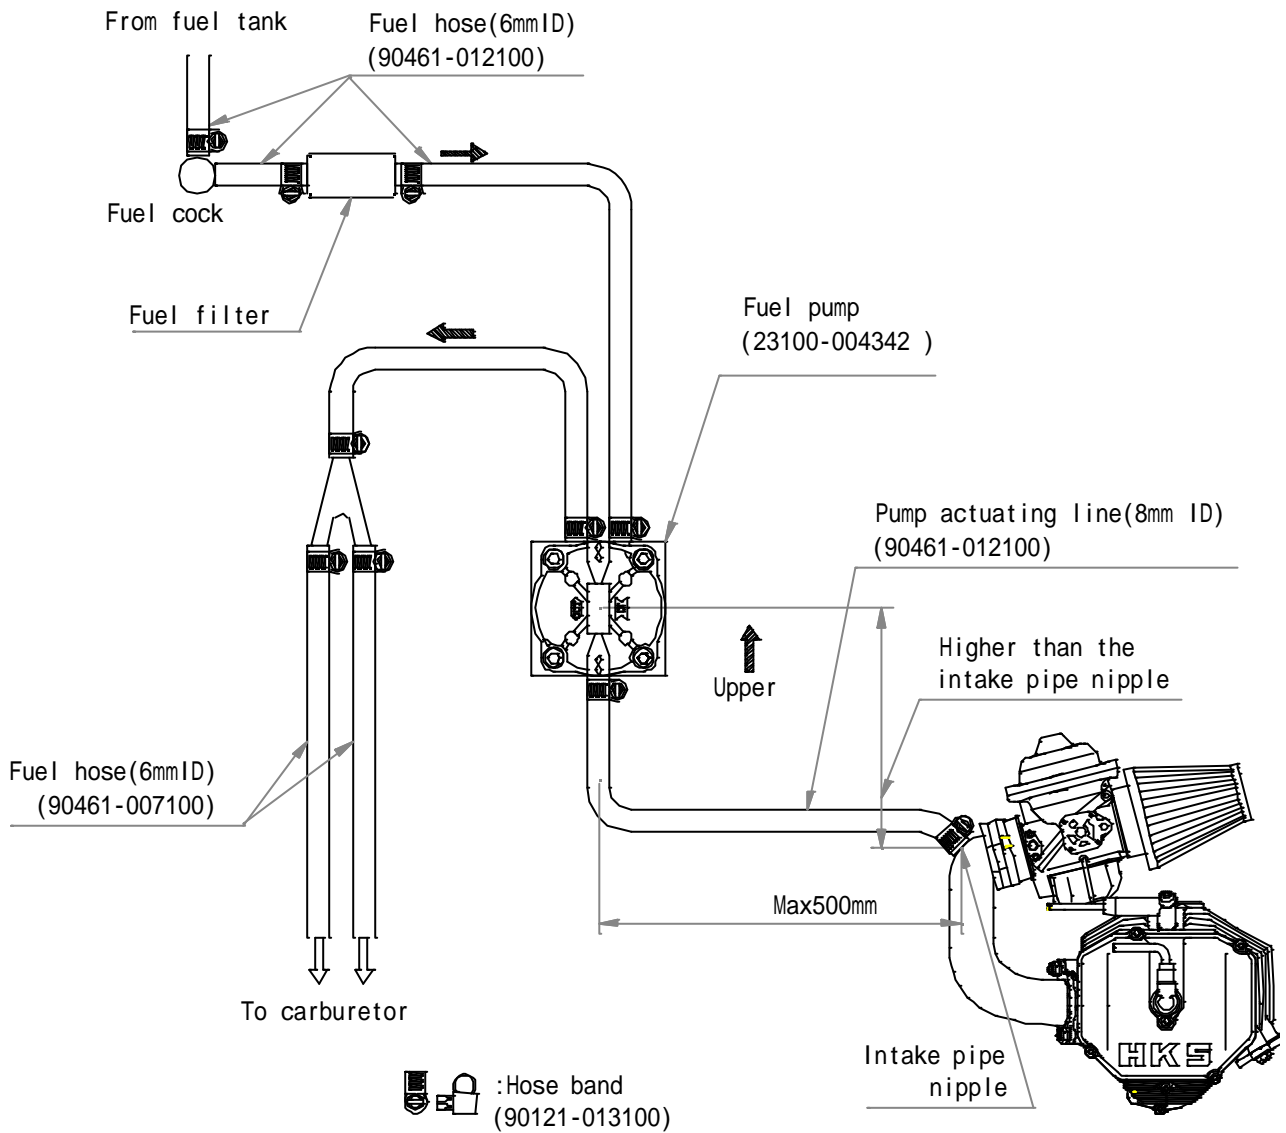

Fig.5 Fuel System Diagram
Fuel is supplied to the two carburetors by the fuel pump. The intake pulse pressure from the right intake pipe nipple actuates this pump pneumatically. 'A' in Fig.5 shows the actuating (pulse) line for this purpose.
Please pay attention to the following for the fuel pump installation (Refer to Fig.5).
- Mount the pump so that the actuating line nipple is downwards as in figure 5.
Follow Fig.5 for proper fuel line connections.
- Fit a fuel filter between the fuel shut-off valve and the fuel pump (See Fig.5).